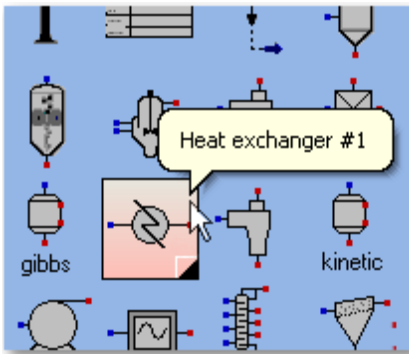

Figure 1: The pop-up label that identifies the UnitOp icon
2. Now place the two heat exchangers on the flowsheet. On the All UnitOps palette, point to the **Heat Exchanger** icon until its pop-up label appears (see Figure 1).